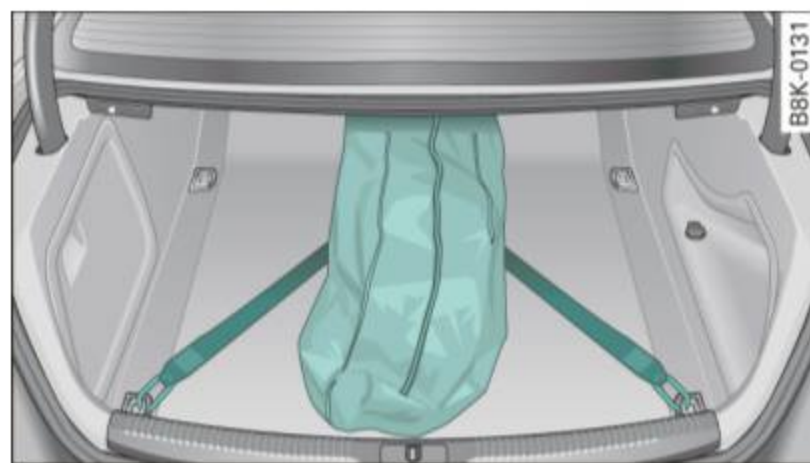

Fig. 87 Luggage compartment: Securing the bag
- The ski sack has two belts with hooks on the underside. Hang the hooks to the rear fastening eyelets in the luggage compartment ⇒ fig. 87.